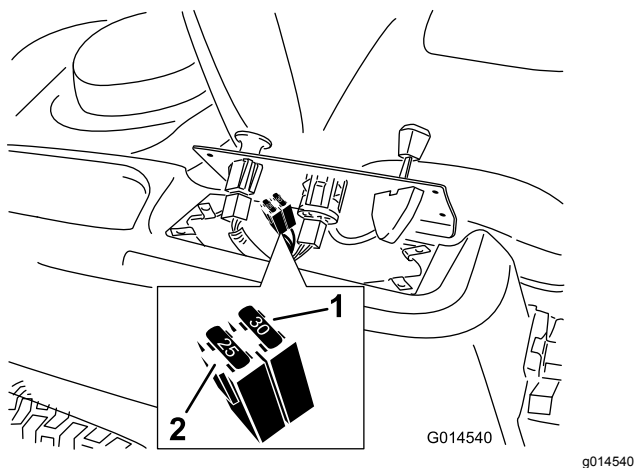

Figure 49
2. Lift the control pane up to access the main wire harness and fuse block (Figure 49).
3. To replace a fuse, pull out the fuse to remove it (Figure 49).